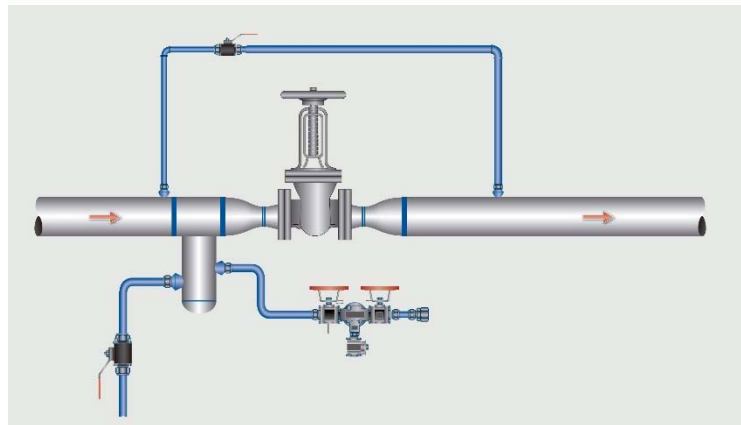

Figure 5. Steam Line Safety Valve
1. Install and use a warm-up valve, as shown in Figure 5 **Error! Reference source not found.**